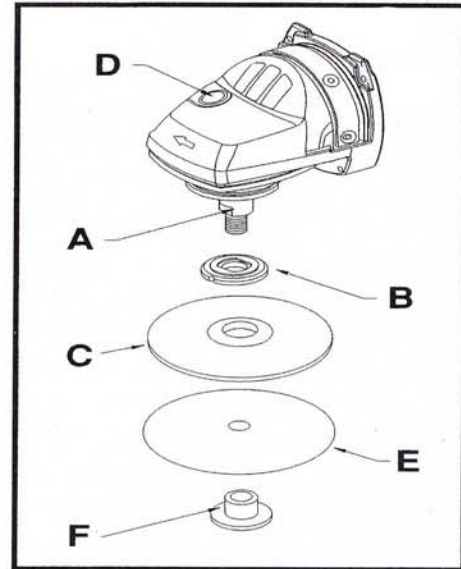

Fig. 2
3. Position inner flange (B) Fig. 2, onto spindle (A), with round hub facing outward, away from machine. Rotate flange until it drops into place on the spindle.
4. Place back-up pad (C) Fig. 2, onto spindle and rotate clockwise until seated.
5. Depress spindle lock button (D) Fig. 2, rotate back-up pad (C) clockwise until spindle lock engages, and firmly tighten back-up pad. Continue to depress spindle lock button.
6. Place sanding disc (E) Fig. 2, on back-up pad and center it.
7. Place retaining nut (F) Fig. 2, through hole in sanding disc. Tighten securely by turning clockwise.
5. Depress spindle lock button (D) Fig. 2, and hold while rotating grinding wheel clockwise by hand until spindle lock engages.